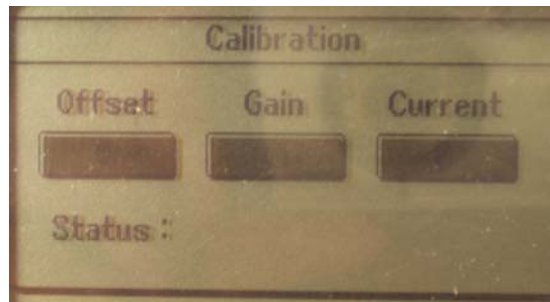

Fig. 18. Calibration display
- e. Use the down  key to select the *Calibrate* option. Fig. 18. (The *Calibrate* option is located below the *Save* option and will be visible when moving the cursor down through the menu).